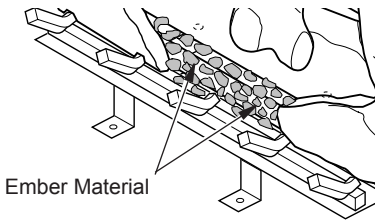

Figure 46 - Placing Ember Material on Burner
- Pull ember material apart into pieces no larger than a dime. Place these pieces loosely and sparingly directly onto exposed section of front burner and along space between burner and grate prongs (see Figure 46). This will create glowing ember appearance as flame touches ember material. Do not block air slots by using too much ember material in one area. It is not necessary to use all of ember material provided.